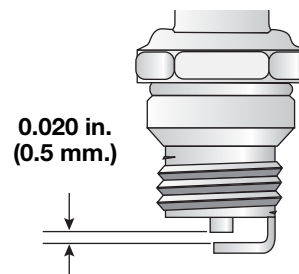

Fig. 18
3. Replace cracked, fouled or dirty spark plug. Set the air gap at 0.020 in. (0.5 mm) using a feeler gauge (Fig. 18).